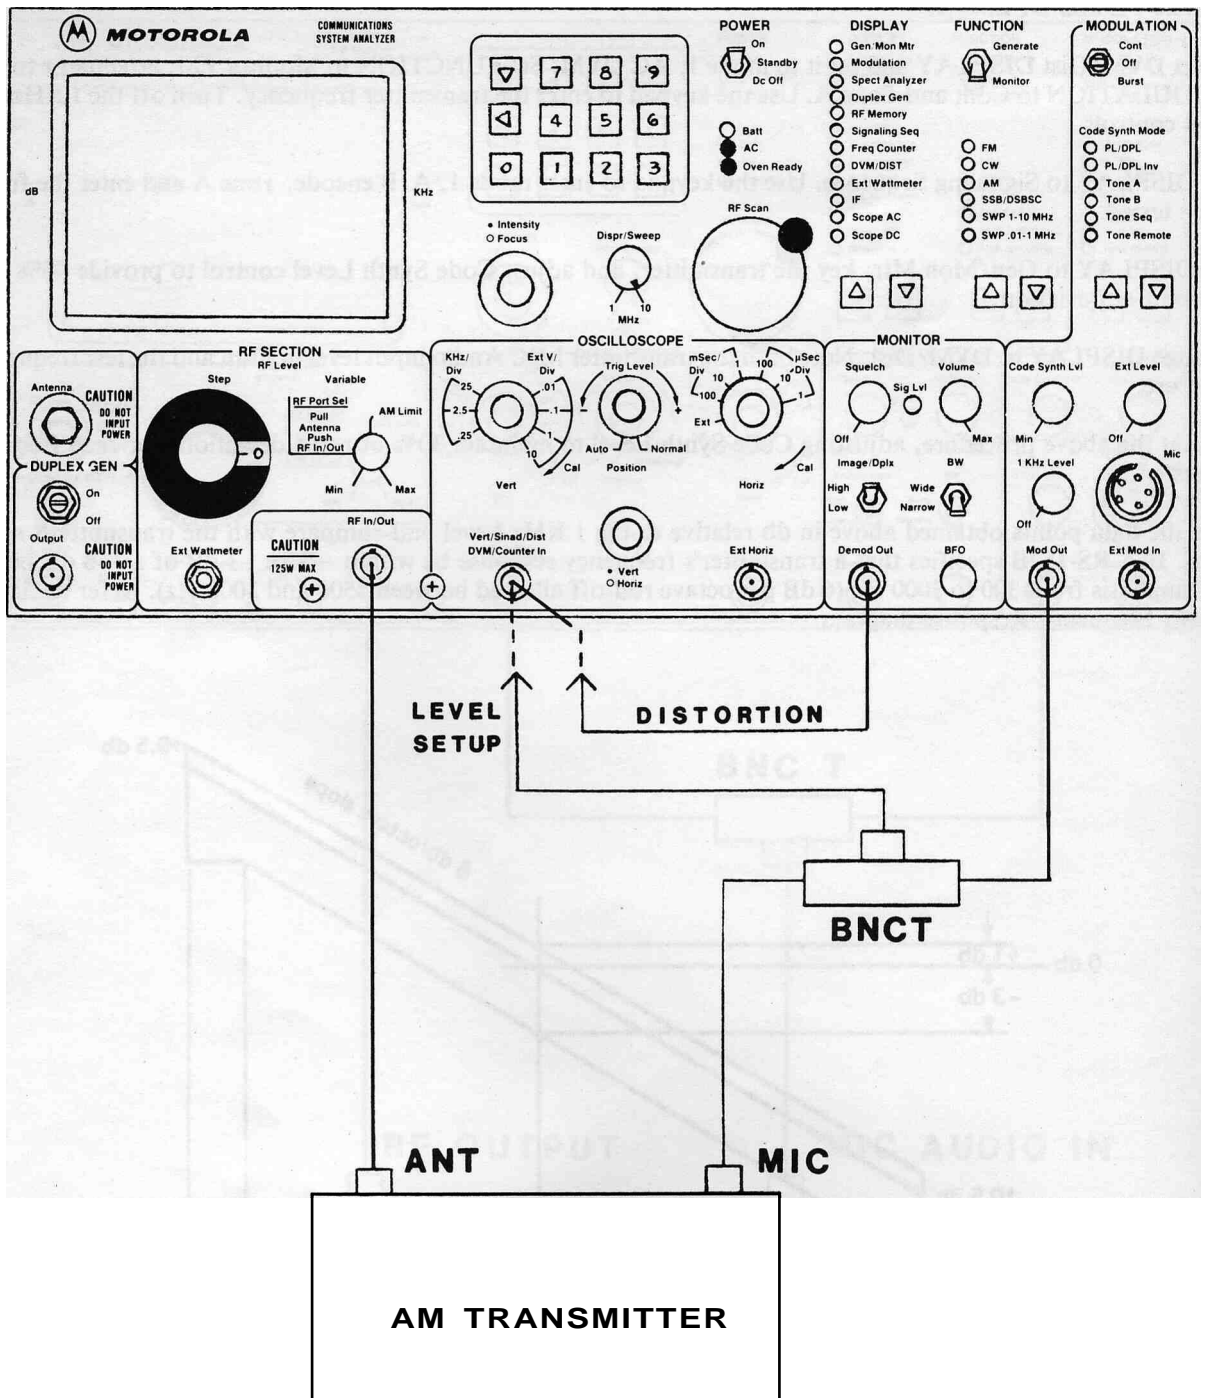

FIGURE 4-12. AM MODULATION TEST SETUP
1. Connect the Analyzer's RF In/Out to the output connector of the transmitter under test, as shown in figure 4-12. Set FUNCTION to Monitor AM.